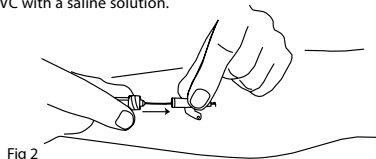
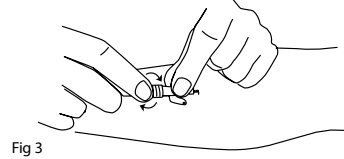

Fig 2
Fig 3
3. Unscrew the protective tubing and remove it from the 67 IV Microdialysis catheter. Insert 67 IV Microdialysis catheter through the peripheral venous catheter (Fig 2) and fixate it by attaching the luer-lock of the 67 IV Microdialysis catheter to the luer-lock of the peripheral venous catheter (Fig 3).